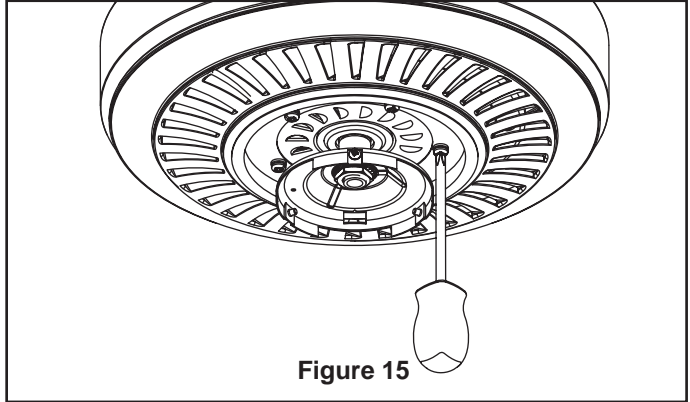

Figure 15
1. Remove and discard the motor stops from the motor assembly by removing the screws. (Figure 15)